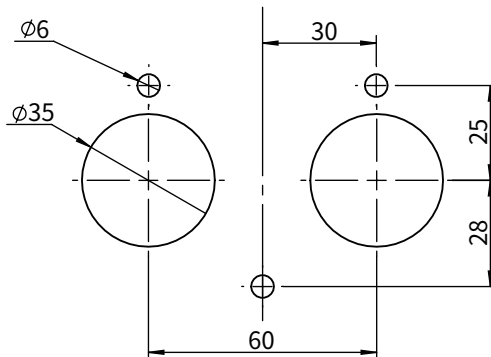

Figure 2-1
1. Drill holes on the hull through the fixing guide referring to the figure 2-1.